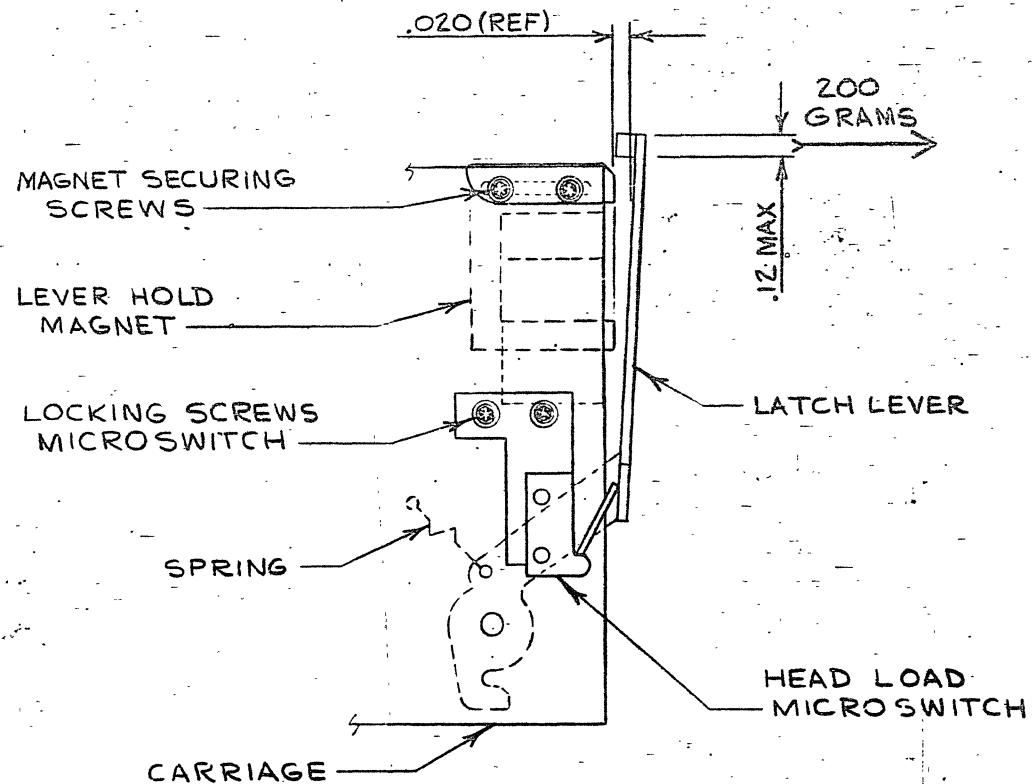

FIGURE 1
7. MOVE THE CARRIAGE TO TRACK 100 BY ROTATING THE STEPPING MOTOR SHAFT COUNTERCLOCKWISE. PLACE .020 (0,51) GAUGE BETWEEN HEAD LOAD LEVER AND UPPER POLE PIECE OF HEAD LOAD MAGNET. (SEE FIGURE 1). THE LEVER CAN BE UNLOADED MANUALLY TO ALLOW INSERTION OF .020 (0,51) GAUGE.
- 10 PLACE .020 (0,51) GAUGE BETWEEN HEAD LOAD LEVER AND UPPER POLE PIECE OF HEAD LOAD MAGNET. (SEE FIGURE 1). THE LEVER CAN BE UNLOADED MANUALLY TO ALLOW INSERTION OF .020 (0,51) GAUGE.